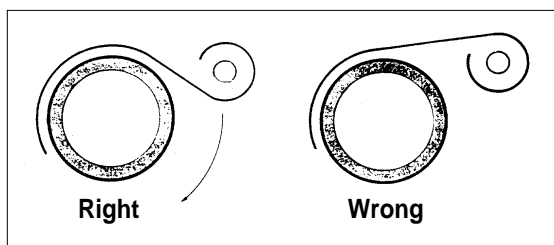

Figure 1
- 7.3 Hold end of tape firmly against the starting point and firmly press on the surface. Unroll the tape, keeping the roll close to the surface. Do not get a long lead of tape as it will tend to fold and gap on the surface being wrapped. The tape is best applied by rolling it around the pipe and giving it proper tension (*See Figure 1*).